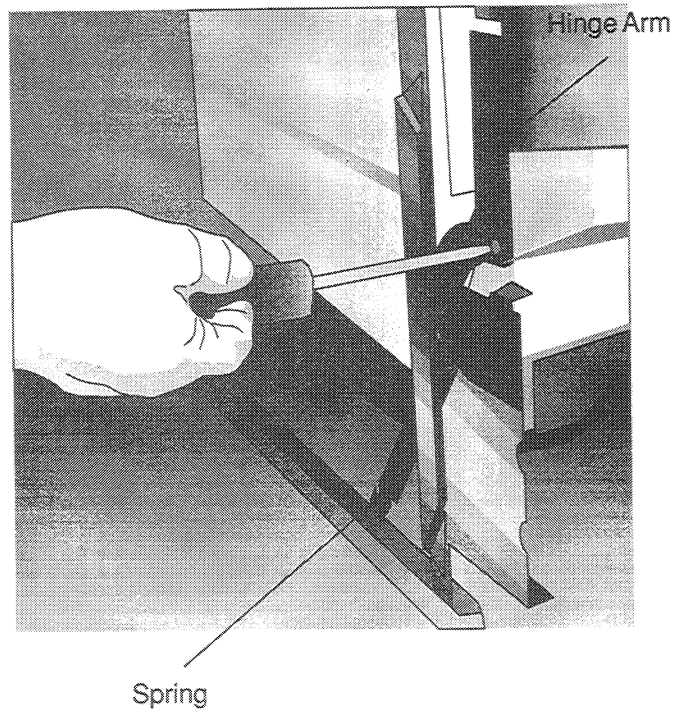

Figure 24
6. Remove two screws and nuts securing door counterbalance hinge arm to inner door panel. (See Figure 24.)